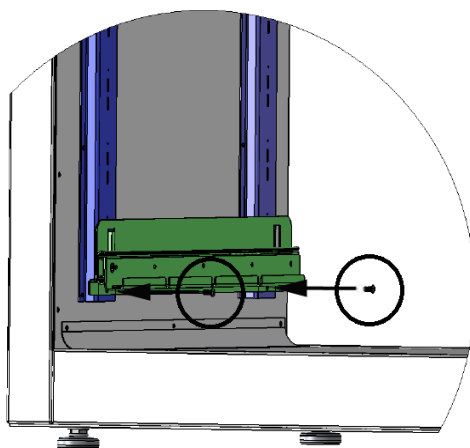
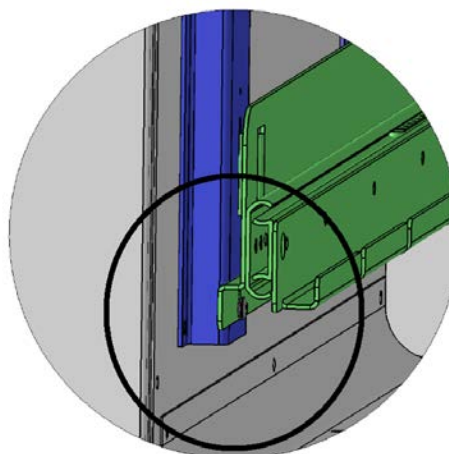

**Figure 7:** Sliding Shelf Mounting Bracket Installation
**Figure 8:** Sliding Shelf Mounting Bracket Installation
1. Insert the sliding bracket tabs into the mounting slots on the shelf standard rails. See Figure 7 and Figure 8.